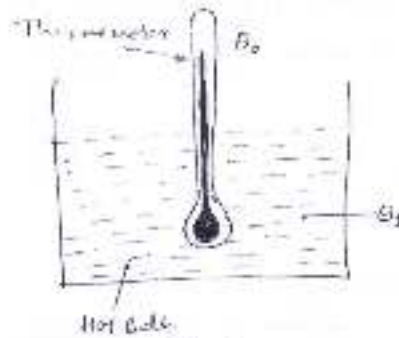

Fig: 1
- Q4) a) Illustrate a mathematical model for a thermal system given in the fig: 1 and represent its transfer function. The bath temperature is  $\theta_1$  and temperature indicated by thermometer is  $\theta_2$ . 10